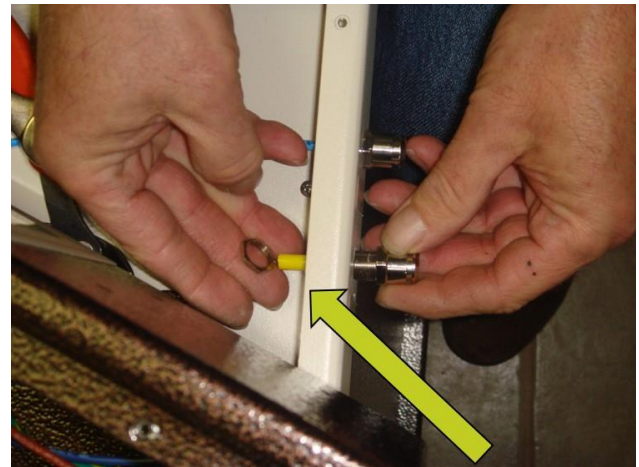

Fig. 3
6. Once the nut has been loosened, you can remove it by hand to pull out the air instrument quick connect. (Fig. 3)